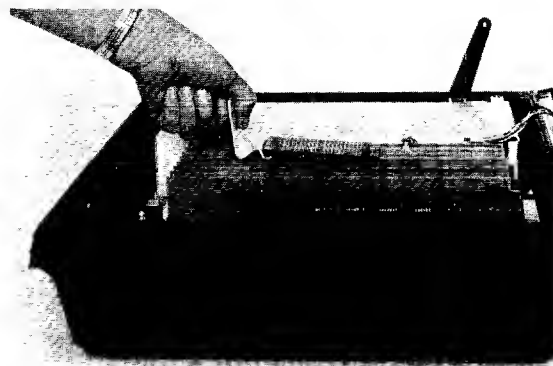

Figure 7-7. Top Plane Assembly Removal
- () Insert connector removal tool under Top Plane Assembly as shown in figure 7-7.